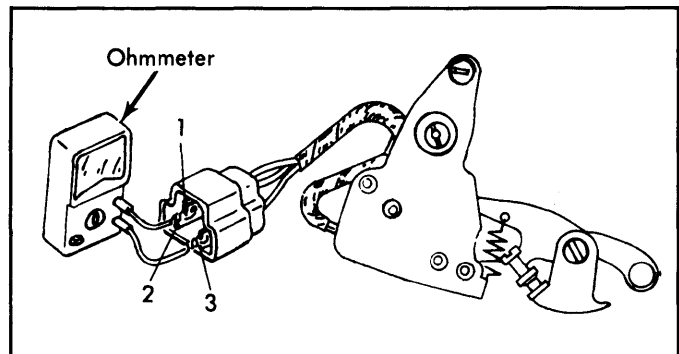

Fig. 6: Idle Switch Continuity Test
2) If not, remove limiter cap on switch. Connect tachometer to engine. Connect ohmmeter to switch terminals No. 1 and 3. See Fig. 6. With automatic transmission in Neutral, start engine.